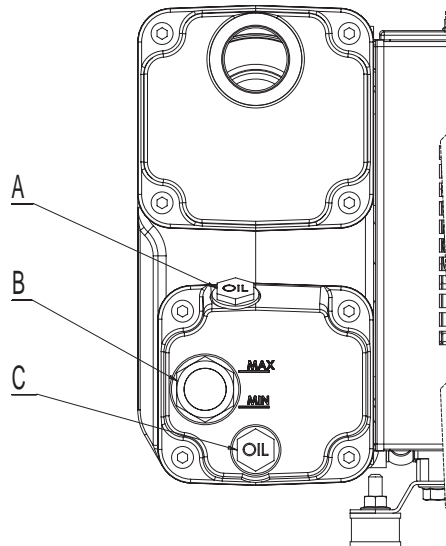

Fig.8
Carry out the first filling up through the plug (E) up to the half of the sight glass (F) and close the plug (E) (Figure 8).
| 2000 Hours/every year | Replace the exhaust filters (Figure 8 pos.B). | Skilled Worker |
Please refer to Figure 8, section 5.6. Unscrew the oil filling plug (E) and the discharge plug (G) only after having placed below the pump tank a suitable container (proper size and shape) for collecting the total quantity of oil.